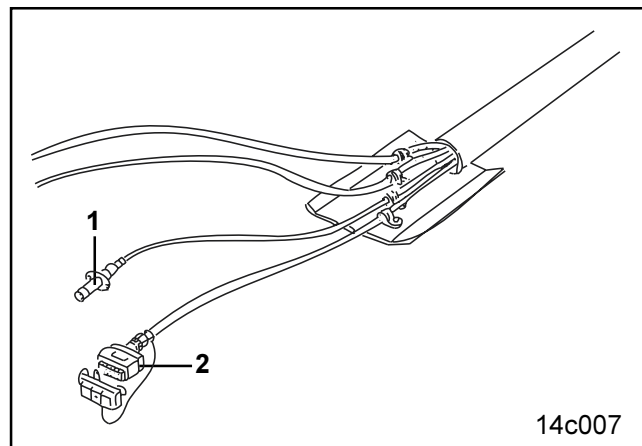

Fig. 5.9
- The plug (Fig. 5.9/1) for the indicators on the seed tank
Insert the plug (Fig. 5.9/1) in the supplied adapter and insert the adapter into the tractor socket (for the trailer traffic light).
- Plug (Fig. 5.9/2) with cables which lead to the AMADOS sensors on the seed rail. Insert the plug in the distributor of the seed rail.